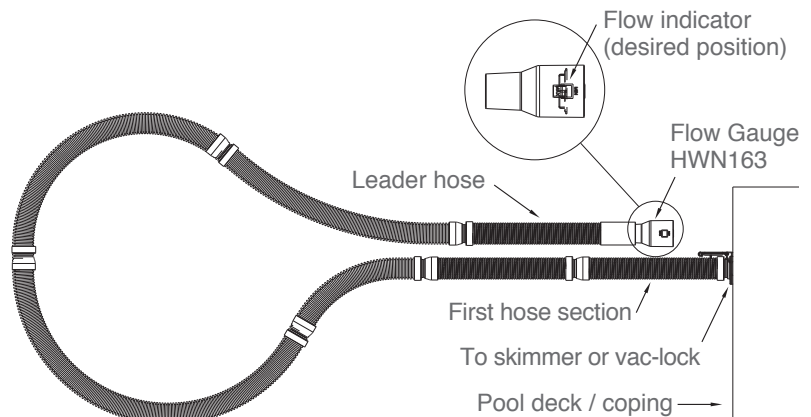
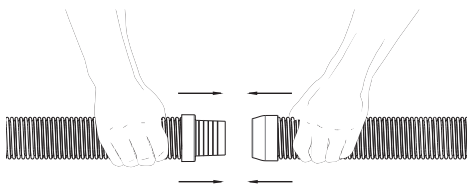
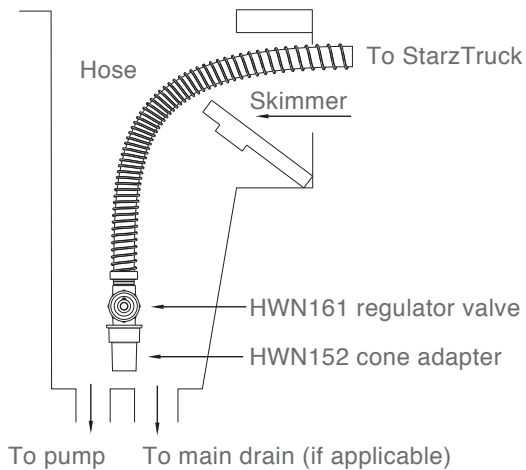

Fig. 3
Fig. 2
Fig. 5
Connect the StarzTruck automatic pool cleaner hose sections together by pushing and twisting the tapered male connector end of each hose firmly into the open female end of the adjacent hose section (see Fig. 2). Depending on the size and shape of your pool, all hose sections might not be used. The hose should reach from the skimmer or safety vacuum lock wall fitting (AquaStar p/n VLK15Txx) to the furthest point in the pool plus one extra hose section. If the hose is not long enough, it will be necessary to purchase additional hose sections from your pool dealer. After the correct hose length has been assembled, fill the hose completely with water by lowering the attached StarzTruck automatic pool cleaner and then vertically pushing the hose down, allowing all the air to escape. When the hose is full, remove the StarzTruck automatic pool cleaner from the hose and insert the flow gauge into the leader hose. Make sure the flow gauge is under water (see Fig. 3).
- A. The suction port of the skimmer (see Fig. 5) or
Check the water flow reading on the Flow Gauge (refer to step 1, Fig. 3). The black disk should be in the box between the “MIN” and “MAX” markings. If the setting is higher than required with the black disk outside of the box on the “MAX” side and you have connected your hose to the skimmer, it will be necessary to reduce the vacuum/water flow by using a valve or valves in the filter system, or the AquaStar HWN161 Regulator Valve or an optional AquaStar Automatic Skimmer Vacuum Plate designed to adjust vacuum/water flow. To install the HWN161 Regulator Valve, turn the filter system off. Remove the hose from the HWN152 Skimmer Cone, and after closing the Regulator Valve (rotate the blue collar clockwise/toward + until closed/tight), insert the Regulator Valve into the Skimmer Cone, and insert the hose end into the Regulator Valve (see Fig. 5 on previous page).
If you have connected your hose to the AquaStar Vacuum Lock, it will be necessary to adjust the vacuum/water flow using the three-way valve at the filter system. The handle on the valve should be turned so that the Flow Gauge which is installed in the StarzTruck hose reads properly (refer to Fig. 3 on page 2). After the three-way valve has been properly adjusted, the vacuum gauge at the three-way valve should be marked so that the water flow can be adjusted by referring to the gauge at the valve rather than reinstalling the Flow Gauge in the hose each time an adjustment is necessary. Once the Flow Gauge has a proper reading, remove it from the leader hose and reattach the StarzTruck automatic pool cleaner. Submerge the StarzTruck back into the pool until it reaches the bottom for operation.